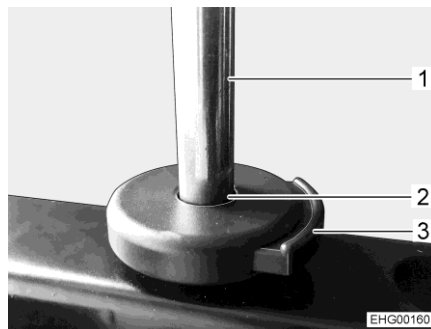

Fig. 22 Release button (headrest)
- Insert the bars (Fig. 22,1) of the headrest into the holders (Fig. 22,2).
- Press the release button (Fig. 22,3) and push the headrest further to the desired position.
- Press the release button (Fig. 22,3).